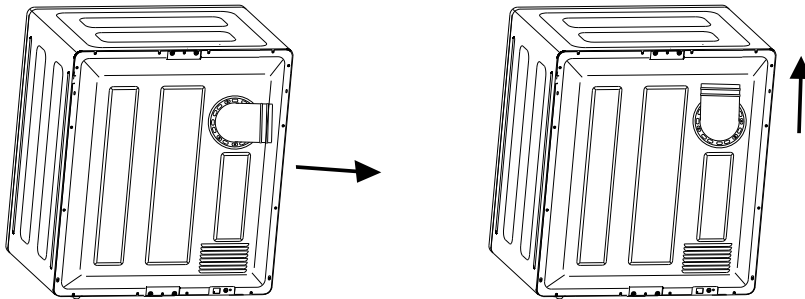

Fig.8
- To install the Exhaust Connector, push the Exhaust Connector into the Exhaust Vent at the back of the Tumble Dryer with the Exhaust Outlet in the direction required, as illustrated in (Fig. 8).